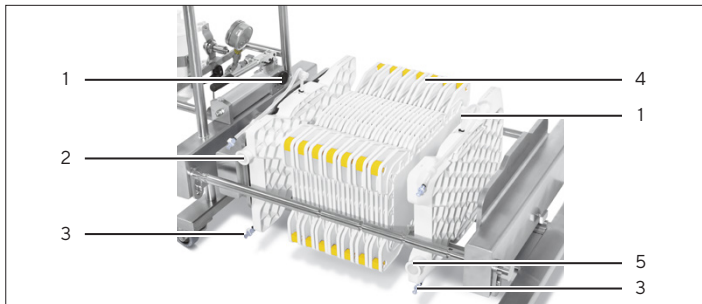

Fig. 6: Insert cassette(s) between the manifold inlet and outlet plates on the Pilot Filter Holder.
- ▶ Place the cassettes (4, see Fig. 6) in the lowest possible position in the holder.
- ▶ The cassettes (4) used for chromatographic separation must originate from the same lot.
- ▶ Put the desired number of Sartobind® cassettes (4) between the manifolds (see Fig. 6).
- ▶ Close all DRAIN and VENT valves (1) of the manifold plates manually using the pinch clamp.